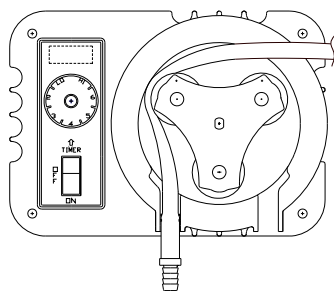
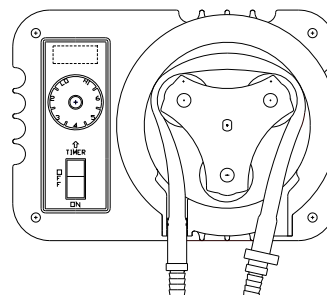

Figure 3
Figure 4
- 6) Jog switch intermittently between OFF and CONTINUOUS positions to rotate Roller assembly while guiding Pinch Tube Assembly into housing as shown in Figures 3 and 4 then switch OFF with roller in position as shown in Figure 4. Keep fingers away from rotating parts.